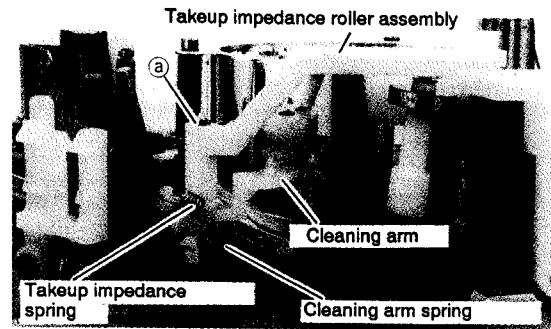

Fig. 3-11-1
- ⑨ Secure the takeup impedance roller with the cut washer ③.
- ⑩ Attach the takeup impedance spring in the direction as shown in Fig. 3-11-1.